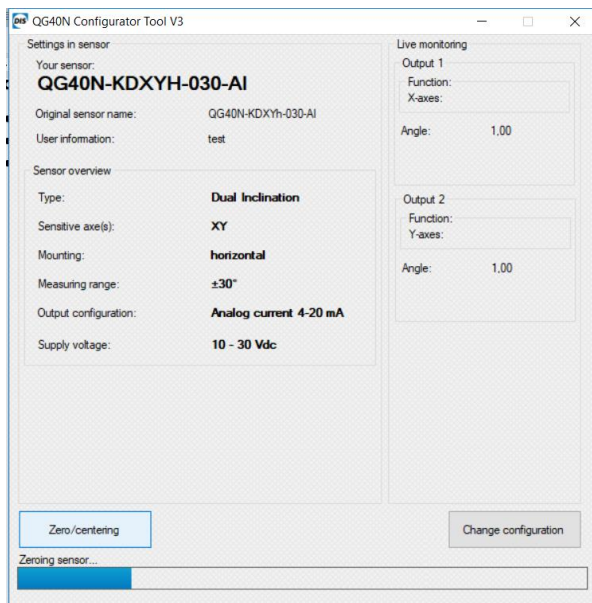
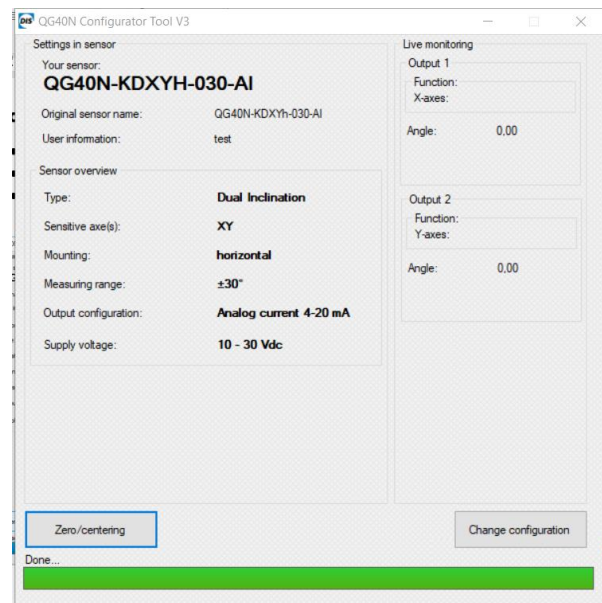

Figure 5. Sensor zeroing
Figure 6. Zero position is set
- The progress bar shows the status (see figure 5). When the zero position is set, you'll see the output is changed to 0.00 on the live monitoring (see figure 6).